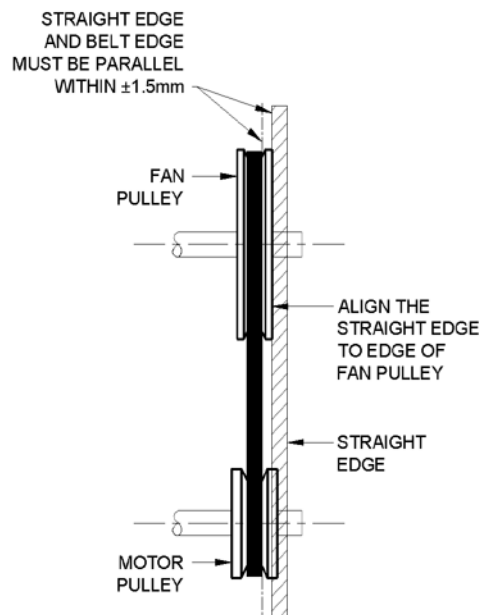

Fig. 8 Evaporator – Fan Pulley Alignment and Adjustment
3. Loosen movable-pulley flange setscrew (see Fig. 8).